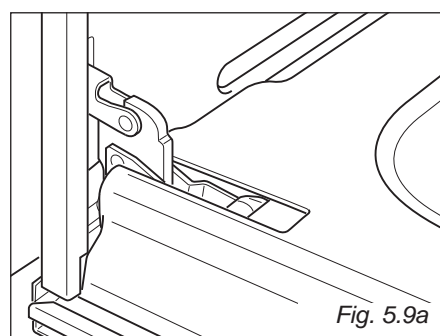

Fig. 5.9a
- Open the door to the full extent (fig. 5.9a).